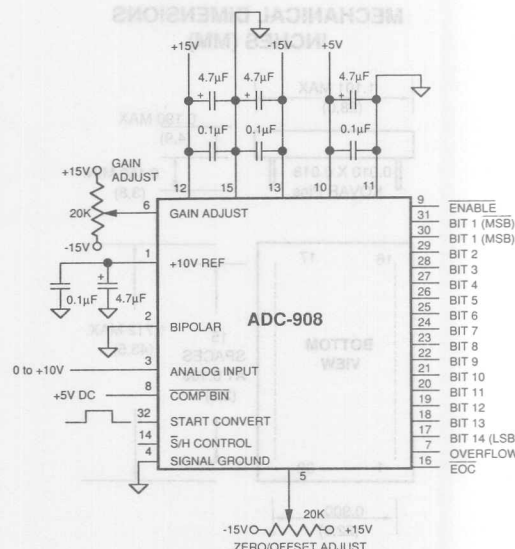

Figure 3. Typical ADC-908 Connection Diagram
1. Connect the converter per Figure 3, and Table 1 for the appropriate full-scale range (FSR). Apply a pulse of 200 nanoseconds minimum to the START CONVERT input (pin 31) at a rate of 250 KHz. This rate is chosen to reduce flicker if LED's are used on the outputs for calibration purposes.